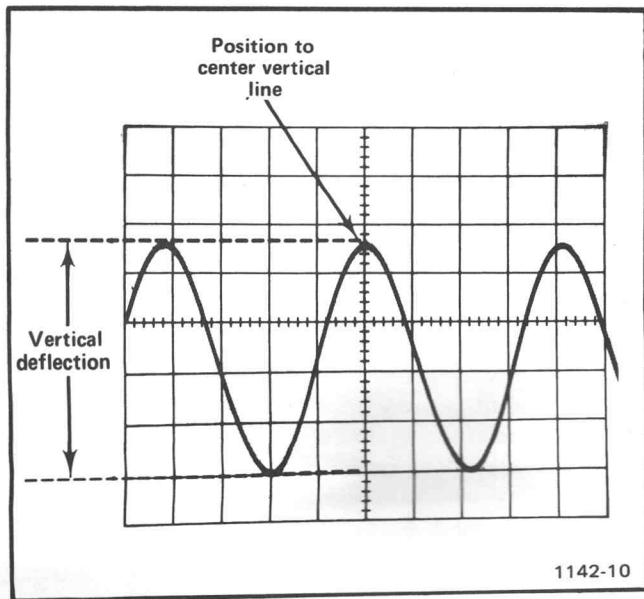

Fig. 2. Measuring peak-to-peak voltage of a waveform.
6. Turn the vertical POSITION control so the lower portion of the waveform coincides with one of the graticule lines below the center horizontal line, and the top of the waveform is on the viewing area. Move the display with the horizontal POSITION control, so one of the upper peaks lies near the center vertical line (see Fig. 2).
**Example.** Assume a peak-to-peak vertical deflection of 4.6 divisions (see Fig. 2) and a VOLTS/DIV switch setting of .5 V.